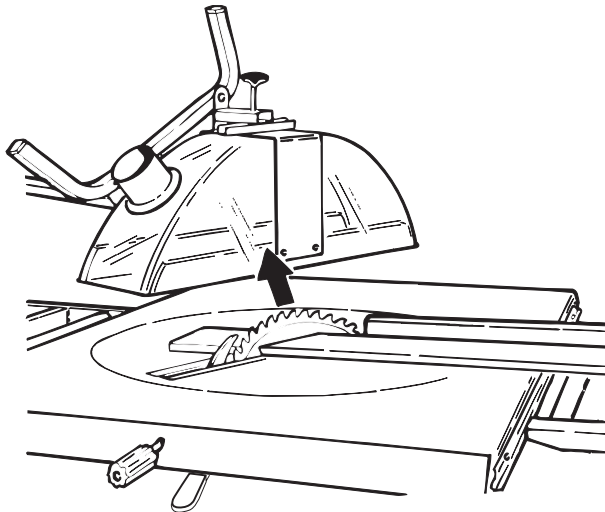

Fig. 16
- Place workpiece against fence and make cut by lifting blade. Fig. 16.